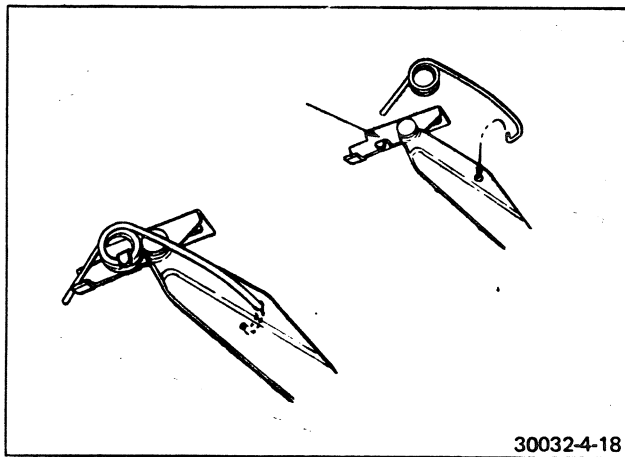

FIGURE 4-18 ERECTING LINK SPRING-INSTALLATION
1. If the erecting link is undamaged but a new spring is needed, refer to Figure 4-18. Note